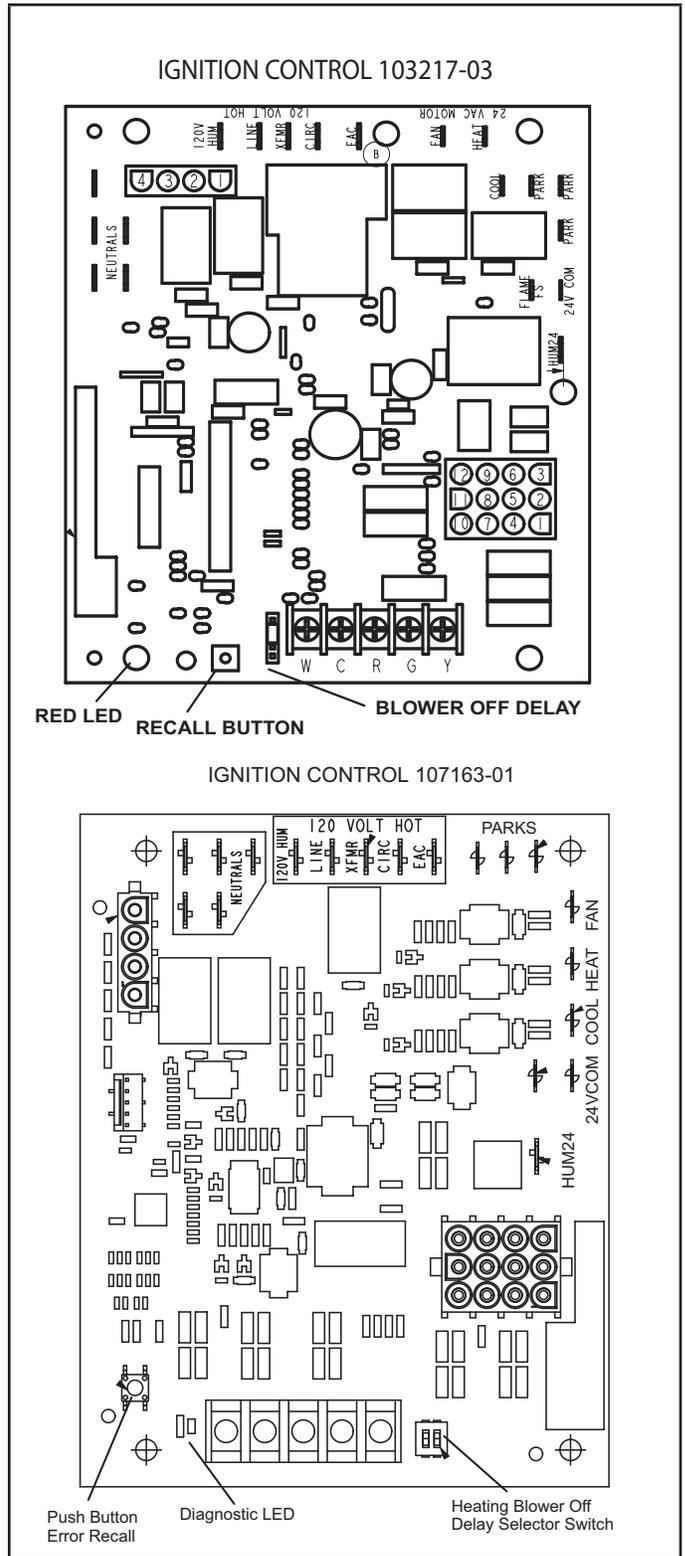

FIGURE 3
The hot surface ignition control system consisting of an integrated control (figure 3 with control terminal designations in tables 1, 2 and 3), sensor and ignitor (figure 6). The integrated control and ignitor work in combination to ensure furnace ignition and ignitor durability. The integrated control, controls all major furnace operations. The integrated control also features a RED LED for troubleshooting and two accessory terminals rated at (1) one amp. The nitride ignitor is made from a non-porous, high strength proprietary ceramic material that provides long life and trouble free maintenance.